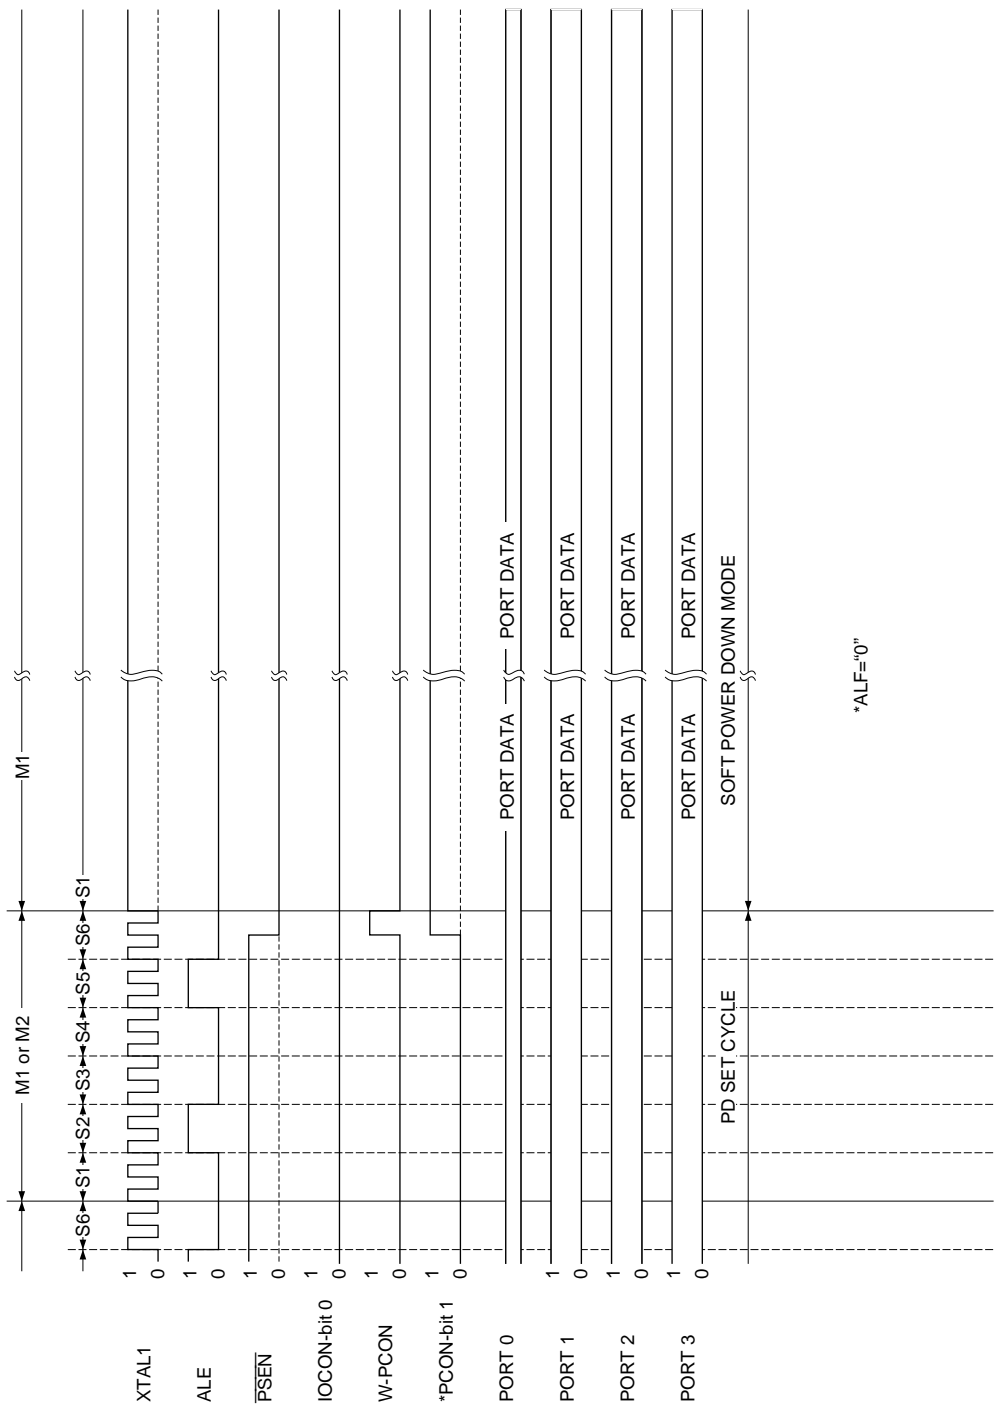

Figure 4-60 Soft power down mode setting time chart (internal ROM mode)
The CPU pin status during soft power down mode (PD) with "0" on the ALF bit is outlined in Table 4-24, and the corresponding time charts for starting soft power down mode are shown in Figures 4-60 and 4-61.